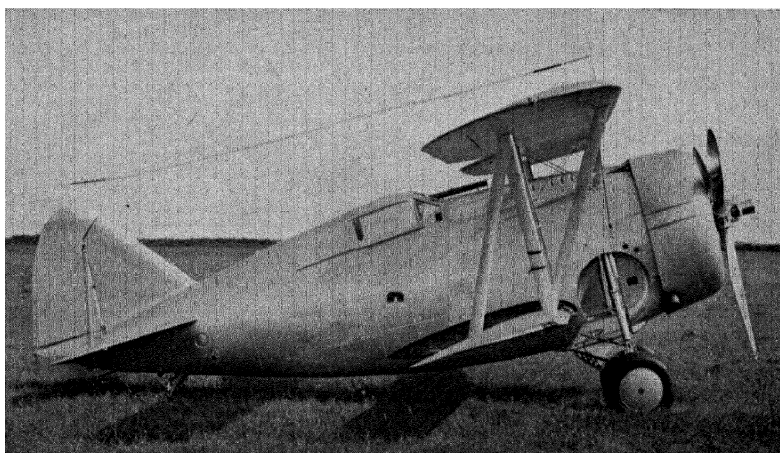

Fig. 168.—Grumman G-37 military biplane. (Courtesy of Aviation.)
5. Represent by means of a bar graph the wing loadings and wing areas of the Grumman planes in the preceding table. One of these planes is shown in Fig. 168.